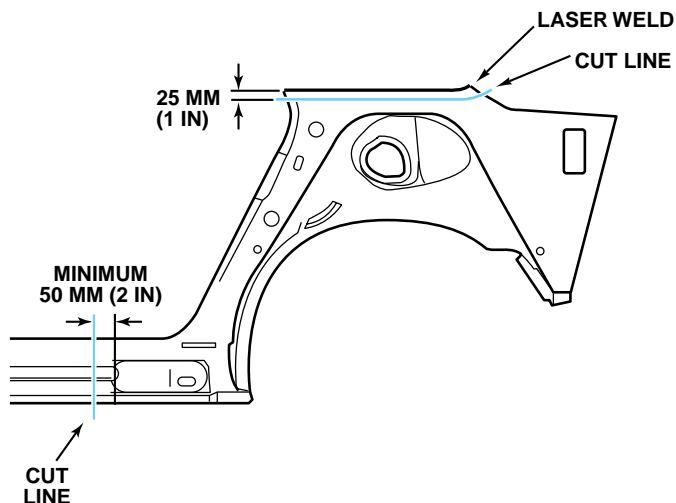

Fig. 1-18 — 2000 DeVille Outer Wheelhouse Removal
1. Locate horizontal laser-weld line in upper quarter area (Fig. 1-18).